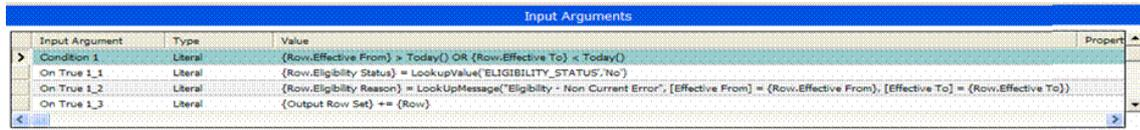

Figure 21. Example of Conditions and Actions for a PSP Procedure
Conditions and actions for each step are entered as input arguments in Siebel Workflow's Process Designer in Siebel Tools, as shown in an example in Figure 21:
- You can specify multiple actions for each condition by using a different index number for the condition name. In the Figure 21 example, there are multiple actions for the On True 1 condition, with the condition name On True 1_1, On True 1_2, and On True 1_3.
- Some Row Set Transformation Toolkit business service methods can include one or more Boolean conditions to which the other conditions refer. In the Figure 21 example, Condition 1 is a Boolean condition which checks the values in the Effective From and Effective To fields. The conditions On True 1_1, On True 1_2, and On True 1_3 are true if this Boolean condition is true.